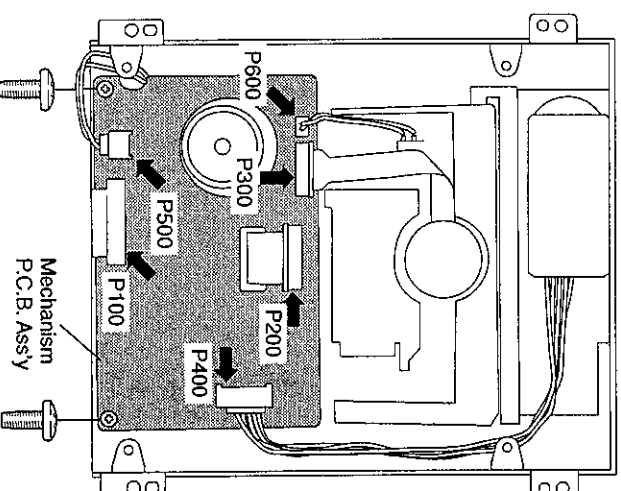

Fig. 2.7.2 Bottom View
- (3) Carefully disconnect the two cables from the connectors P400, P500 and P600, and the two flat cables from the connectors P100, P200 and P300 on the Mechanism P.C.B. Ass'y. See Fig. 2.7.2.
- (4) Remove the two screws and detach the Mechanism P.C.B. Ass'y from the Traverse Mechanism.
- (1) Remove the Main P.C.B. Assy referring to item 2.5.
- (2) Disconnect the connector P300 on the Mechanism P.C.B. Assy. See Fig. 2.7.2.